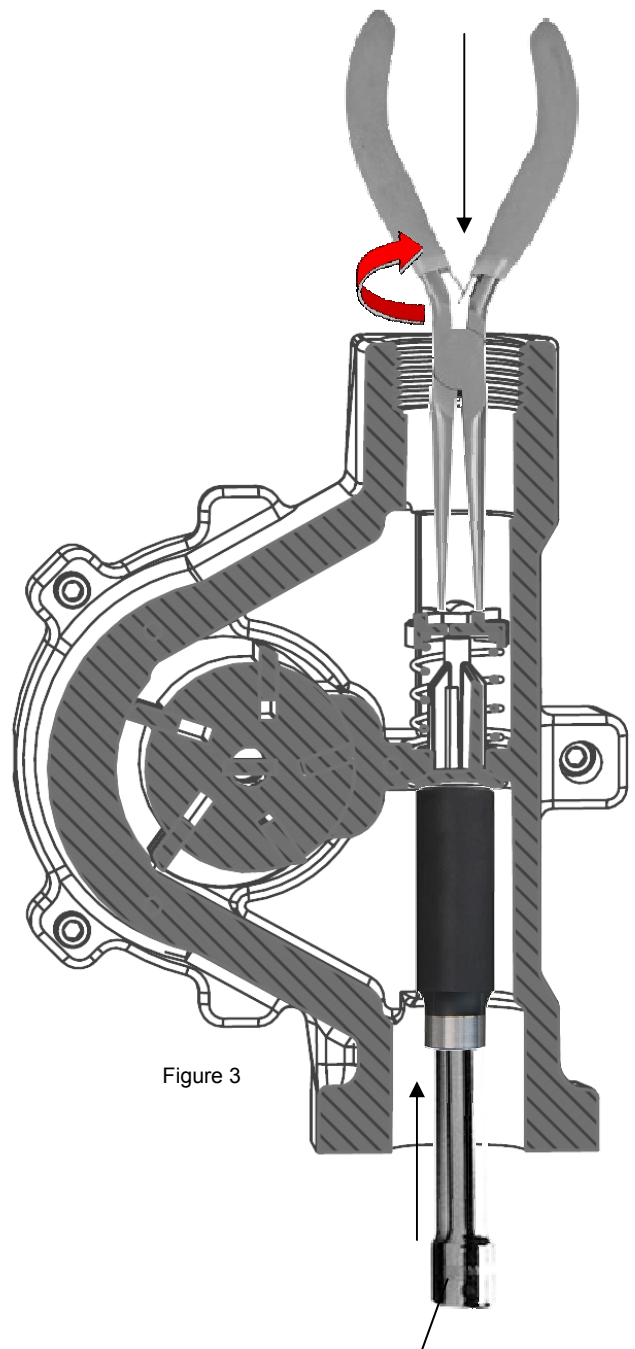

Figure 3
The bypass valve consists of three components (Figure 3):
- 4) Using a blunt object approximately 4" long (i.e. a deep well socket on an extension) inserted in the inlet opening, push the bypass valve firmly in place against the seat it seals on (Figure 3).
- 5) While holding the Bypass Valve firmly in place with the socket, insert needle nose pliers (at least 4" long) into the outlet opening and grasp the Bypass Valve Retainer (Figure 3).